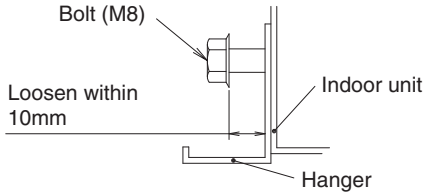
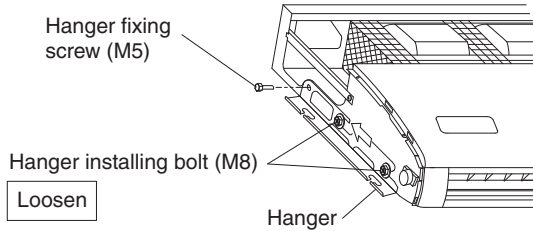

Fig. 7
Fig. 8
- Open the knock hole at the wiring inlet side at the rear surface or top surface, and install the attached resin bushing (10).
- Loosen 2 bolts for installing the hanger at both sides (M8) (4 places at left and right) within 10mm. (Refer to Fig. 7 and Fig. 8)
- Remove the fixture screw for hanger at the back side (M5), pull the hanger backward (the arrow direction) to remove. (Refer to Fig. 8)